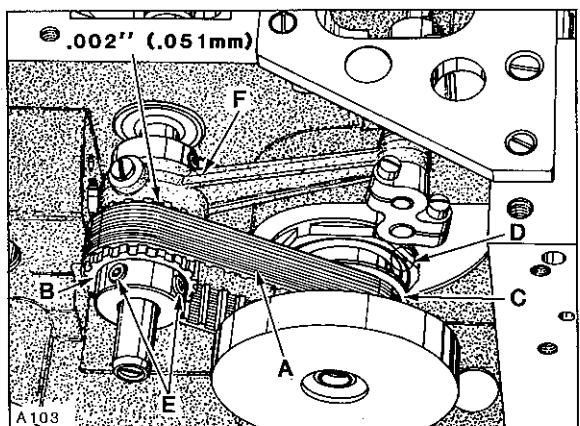

Fig. 4
NOTE: End cover has been removed for clarity in Figure 4, but MUST BE IN POSITION WHILE MAKING THE FOLLOWING ADJUSTMENTS.
Looper drive belt, (A, Fig. 4) has proper tension if, when turning handwheel in operating direction to position looper in the center of its (right to left) travel...there is no noticeable (right to left) play in the looper mechanism. There should be approximately 1/8 inch (3.2mm) deflection in looper drive belt when pressing firmly with thumb, midway between sprockets (B and C). Adjustment can be made by loosening two screws (A, Fig. 5) and turn looper module (D, Fig. 4) counterclockwise to tighten belt or clockwise to loosen, as viewed in Figure 4. Retighten screws (A, Fig. 5).
Rotate handwheel in REVERSE direction until pin in looper holder again makes contact with gauge plate and note the reading on the gauge. A variation of (1) graduation on the scale is permissible. If the reading is above "0", loosen screws (E, Fig. 4) and turn rear looper drive sprocket (B) towards the operator (clockwise as viewed in Figure 4). If the reading is below "0", turn sprocket away from operator (counterclockwise as viewed in Figure 4). Temporarily snug screws.
Rotate handwheel in OPERATING direction until pin in looper holder contacts gauge plate and note the reading on scale. If the reading is above "0", loosen screws (E) and turn sprocket (B) away from operator (counterclockwise as viewed in Figure 4). If the reading is below "0", turn sprocket towards the operator (clockwise as viewed in Figure 4). Temporarily snug screws.
the left side of needle and check the distance from the eye of needle to the bottom of looper blade. If the distance was greater when handwheel was turned in operating direction, (as viewed in sketch B) loosen screws (E, Fig. 4) and turn rear looper drive sprocket (B) away from operator (counterclockwise as viewed in Figure 4).
the needle to the bottom of looper blade is the same in either direction (as viewed in sketch D). Before tightening screws (E, Fig. 4) securely, be sure to have .002 inch (.051mm) clearance between sprocket (B) and needle guard drive connecting rod (F).
If the distance was greater when handwheel was turned in reverse direction, (as viewed in sketch C) turn sprocket towards the operator (clockwise as viewed in Figure 4). Temporarily snug screws. Continue to check and adjust in both OPERATING and REVERSE directions until the distance from the eye of